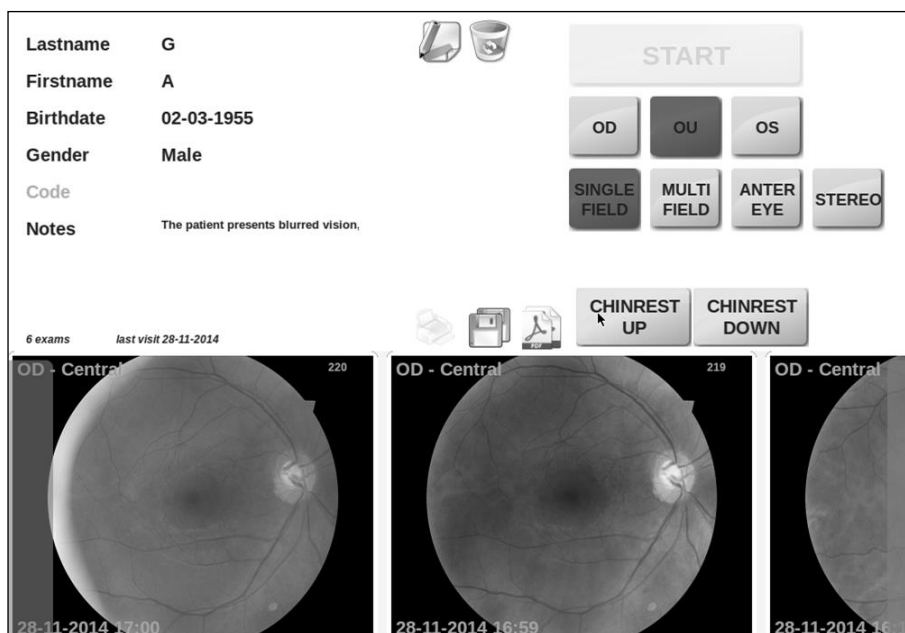

Figure 23 - Patient record screen
Once the desired patient has been identified in the list, click on the corresponding line to select and open the **Patient Record** screen (see Figure 23).
Once the image(s) has (have) been acquired, the system will open the patient's individual record and present a thumbnail view of all the available images (see Figure 23).
- Patient record screen (same as Figure 23)